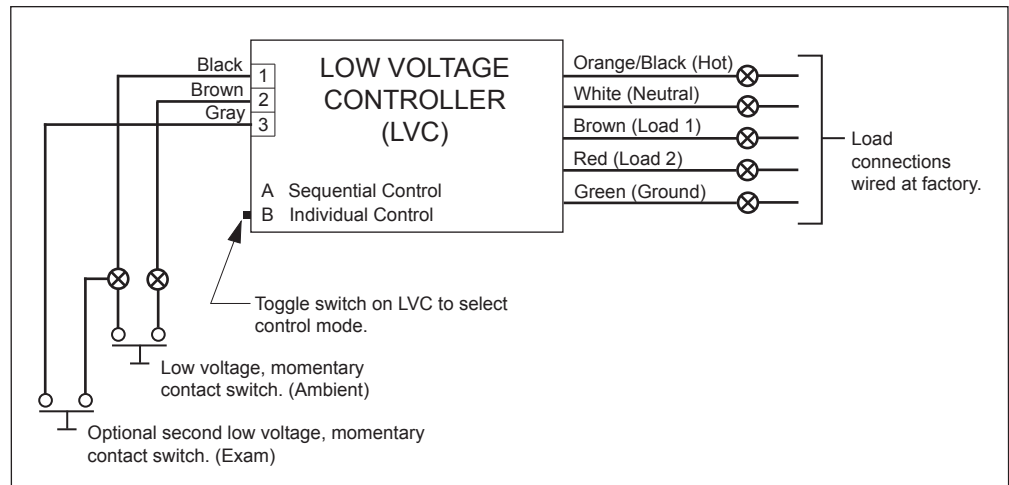

Figure 8
4. The LVC is designed to operate either (1) or (2) loads. (Typically, with the DuoCare™ Exam/Ambient fixture, the LVC is used to control only the ambient load. The Exam load is controlled by a separate line voltage wall switch or timer.) The LVC also has the capability to control the load(s) individually or sequentially. These options and wiring schematics are defined further in figures 8 and 9.
This is used where a switch is dedicated to one load that will be turned on/off. If a second load is to be controlled, a second switch is required. The switch on the LVC is positioned in the “B” position. (See Figure 8)